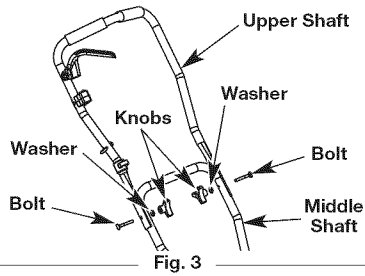

Fig. 3
- Align the holes on the upper shaft with the holes toward the upper end of the middle shaft (Fig. 3).
**NOTE:** Make sure the "V" bend in the handle is pointing up, so that the throttle control is on the right side when the operator is standing in the operating position (Fig. 3).
- Insert a flange-headed bolt into each of these two holes (Fig. 3).
- Install a washer and knob onto each bolt (Fig. 3). Tighten the knobs securely.